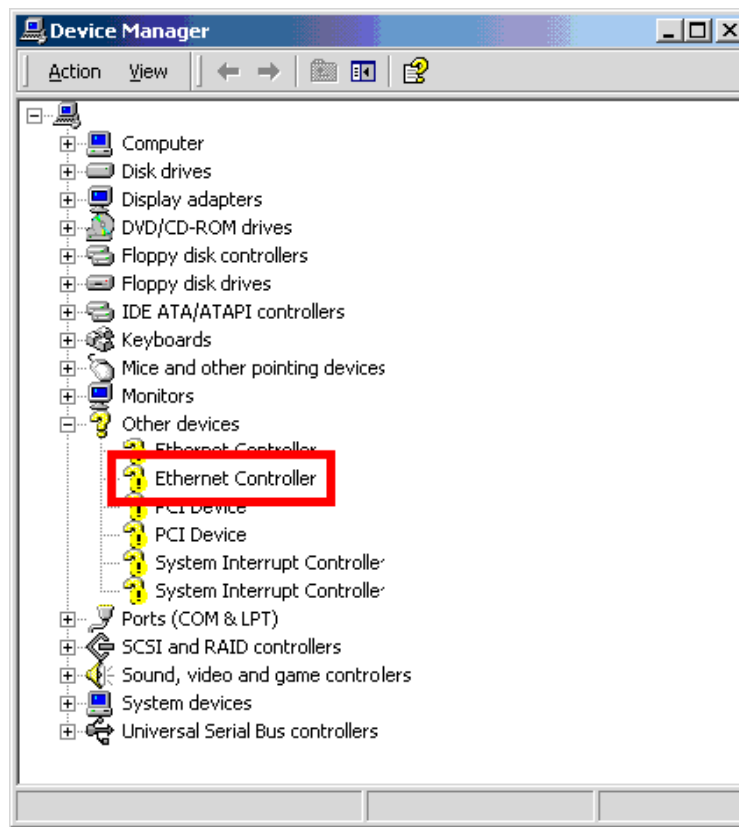

Figure 7-29: Device Manager List
Step 4: A list of system hardware devices appears (Figure 7-29).